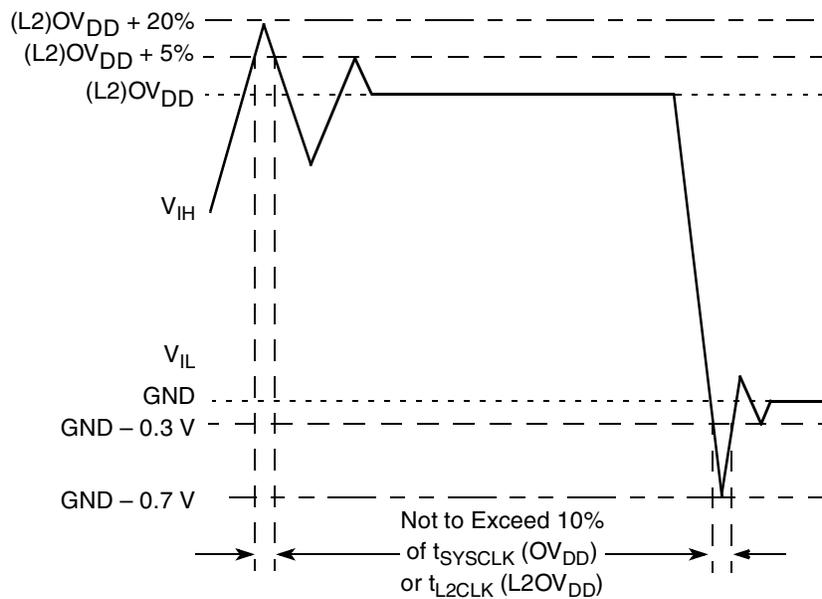

Figure 2. Overshoot/Undershoot Voltage
5. V_{in} may overshoot/undershoot to a voltage and for a maximum duration as shown in Figure 2.
Figure 2 shows the allowable overshoot and undershoot voltage for the MPC7410.